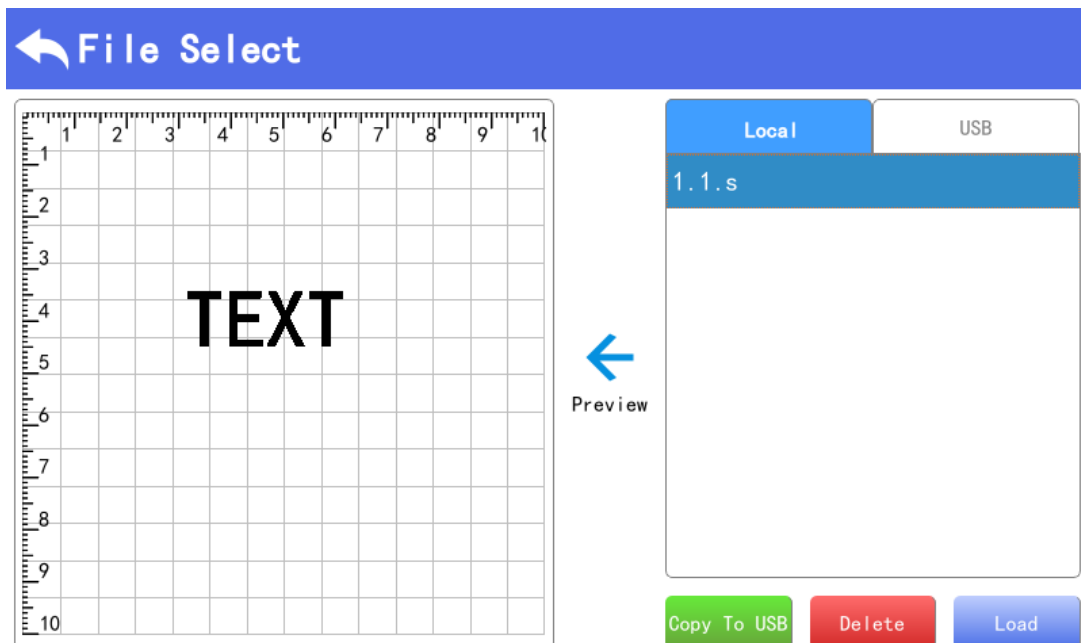

Figure 3.4 File selection interface
**Copy files:** Click the "Local" button on the file selection interface to display local related files on the left. Click the file to be copied, and then click the "Copy to U disk" button to copy the local file to the U disk. The same applies to copying U disk files to local. The file selection interface is shown in Figure 3.4.